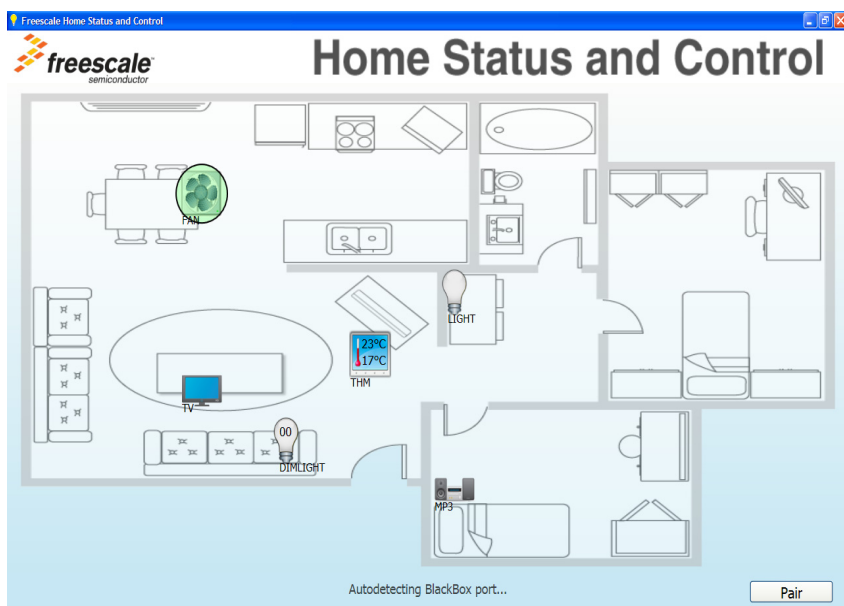

Figure 18. HECA HSC GUI View
3. From the HECA toolbar view, click the Home Status and Control option. Wait until the HSC Panel view appears as shown in Figure 18.
7. Within 30 seconds from initiating PBP on the 1323x-RCM, start the pairing process in the HSC view by clicking the “Pair” button shown at the bottom right of the application window (Figure 18).